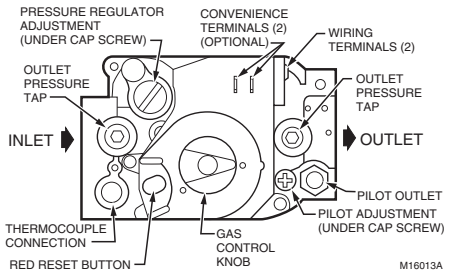

Fig. 1. Top view of gas control.
2. Remove the regulator cap screw and pressure regulator adjusting screw. See Fig. 1.
6. Connect the pipe to the gas control inlet and outlet. Use a wrench on the square ends of the gas control. If an adapter is used, place the wrench on the adapter rather than the gas control. Refer to Fig. 1 and 6.
3. Unscrew the compression fitting from the pilot outlet (Fig. 1). Slip the compression fitting over the tubing and slide out of the way.
2. Connect the control circuit to the gas control terminals. See Fig. 1 and 9.